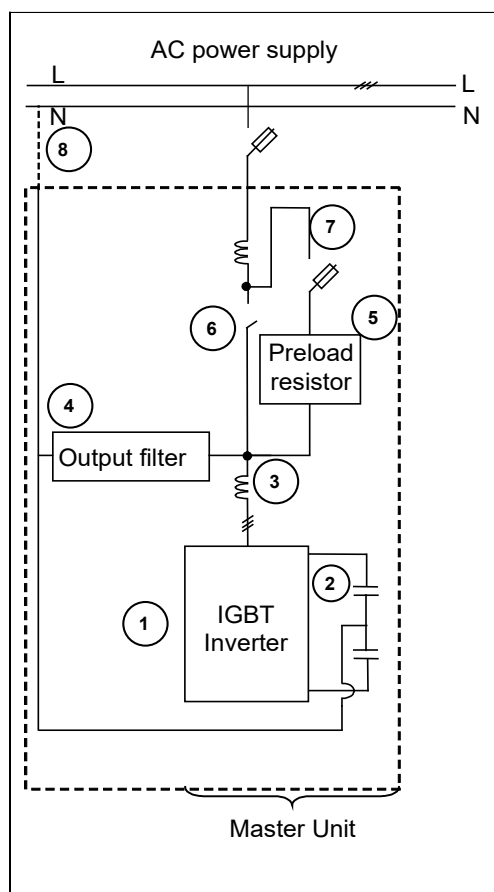

Figure 10: Power circuit diagram of a PQFS active filter
In Figure 10 it may be seen that each current generator consists of an IGBT-inverter bridge (1) that is controlled using PWM-switching technology. Information from the filter controller is sent to the IGBTs through one flat cable. At the output of the inverter a voltage waveform is generated which contains the desired spectral components (imposed by the filter controller) as well as high frequency noise (due to the IGBT switching technology). Coupling impedance consisting of a reactor (3) and a high frequency rejection filter (4) ensures that the useful voltage components are converted into a useful current while the high frequency noise is absorbed. The IGBT-inverter is equipped with DC capacitors that act as energy storage reservoirs (2).